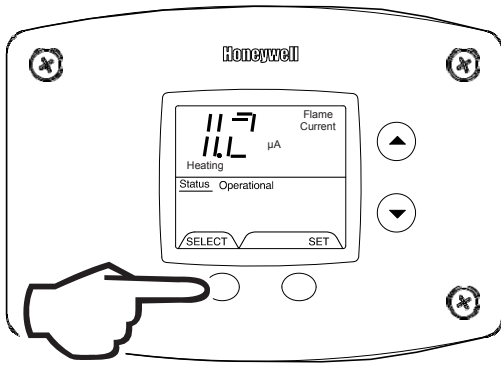

Fig. 48
3. Press the 'Select' button until a number value is displayed with 'Flame Current' to the right of the number. The value displayed is in microamps (µA). (Fig. 48)